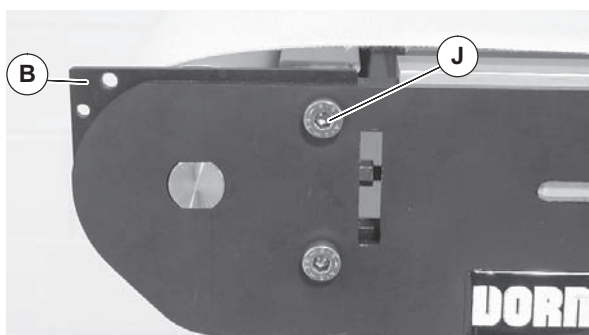

Figure 6
- Replace with new spacer plates (Figure 6, item B). Insert screw (J) hand tight.